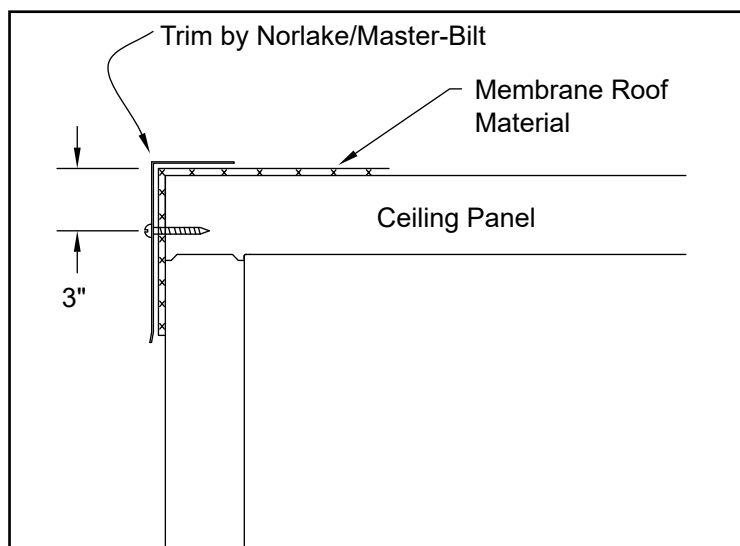

Figure 5
6. Attach the trim and door hood (if your walk-in is equipped with them) by using the provided pan head sheet metal screws. Ensure the trim and membrane roof material cover the joint between the ceiling and wall panels. Refer to figure 5. Note: The trim may have to be cut to fit.